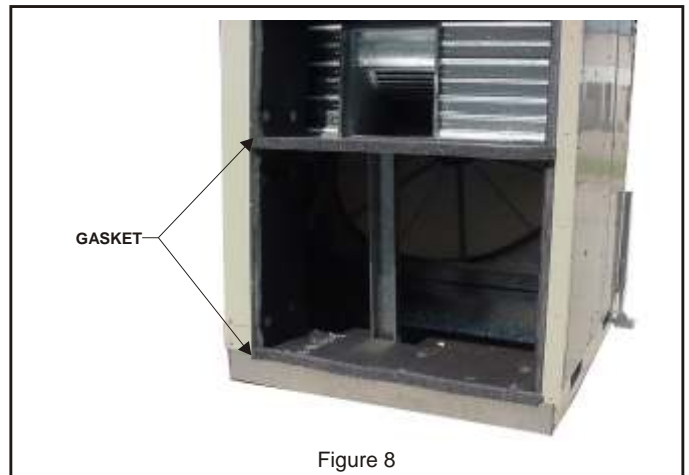

Figure 8
1. Apply 3/4" x 1 1/4" gasket to top and bottom decks of ERS as shown in the figure. **See Figure 8.**